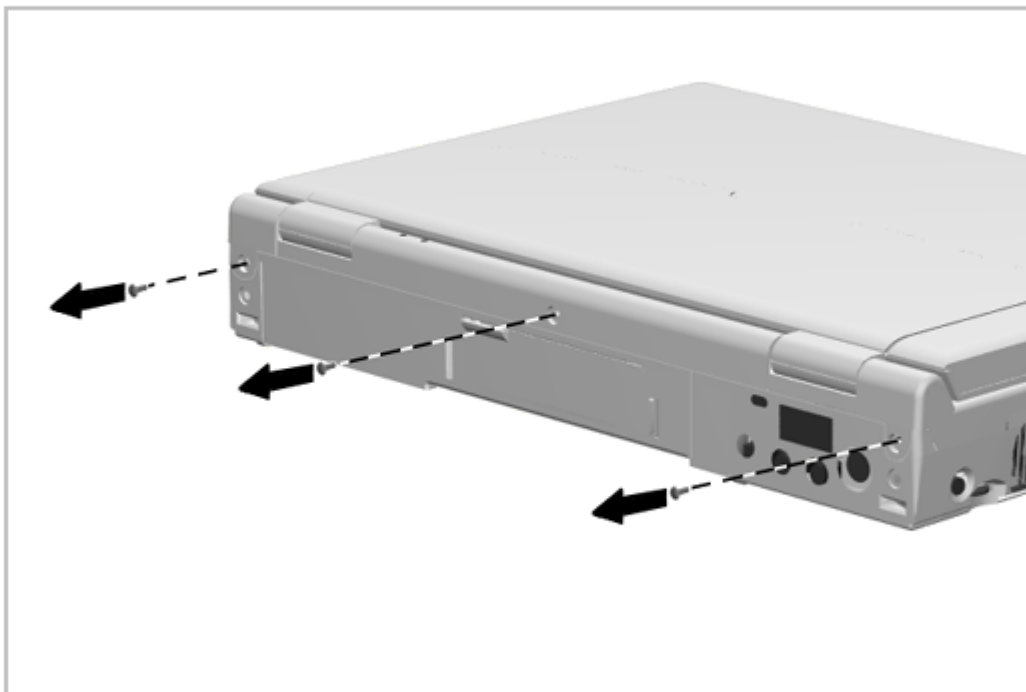

Figure 5-22. Removing the CPU Cover Screws
2. Remove the three screws from the back of the computer (Figure 5-22).